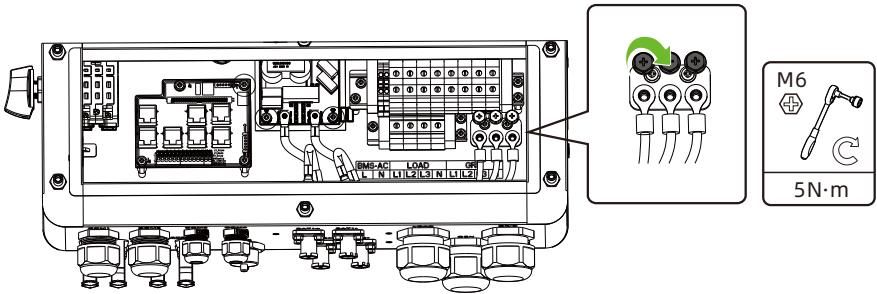

Fig 6.10 Grounding Schematic
2) Connect a ground cable to the copper grounding bar. Fig 6.10 shows the position of the grounding bar ;
1. Connect the grounding cable of the battery power line to the PE position, as shown in Figure 6.10;